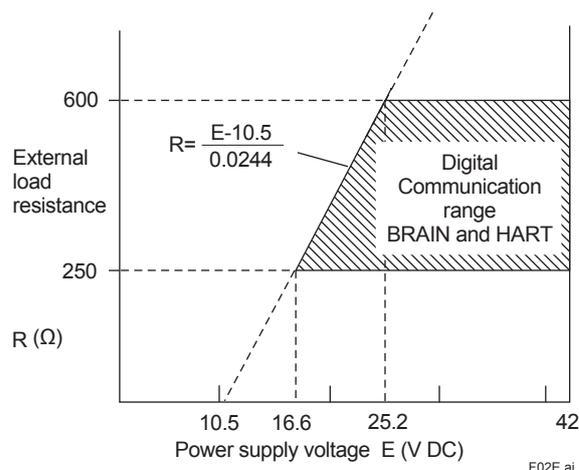

Figure 2. Relationship Between Power Supply Voltage and External Load Resistance (Output signal code D and J)
- With 24 V DC supply, up to a 550Ω load can be used. See figure 2.